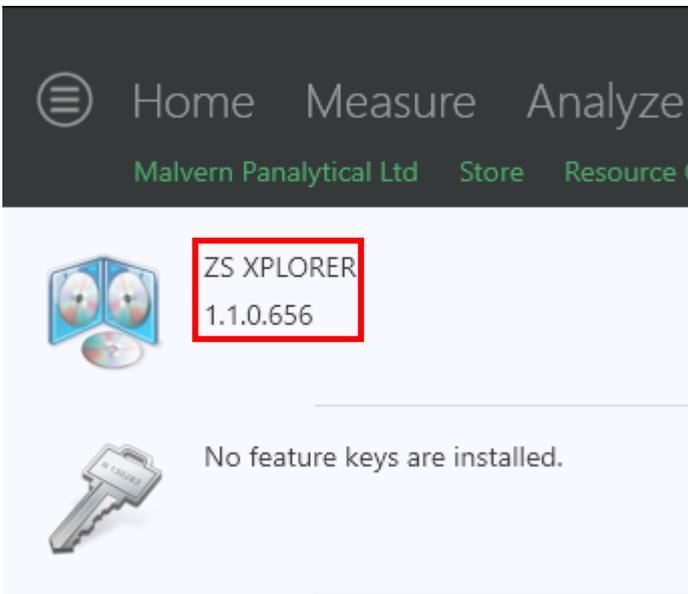

Figure 14: Software Version Number
- Click on the About button (Figure 14)